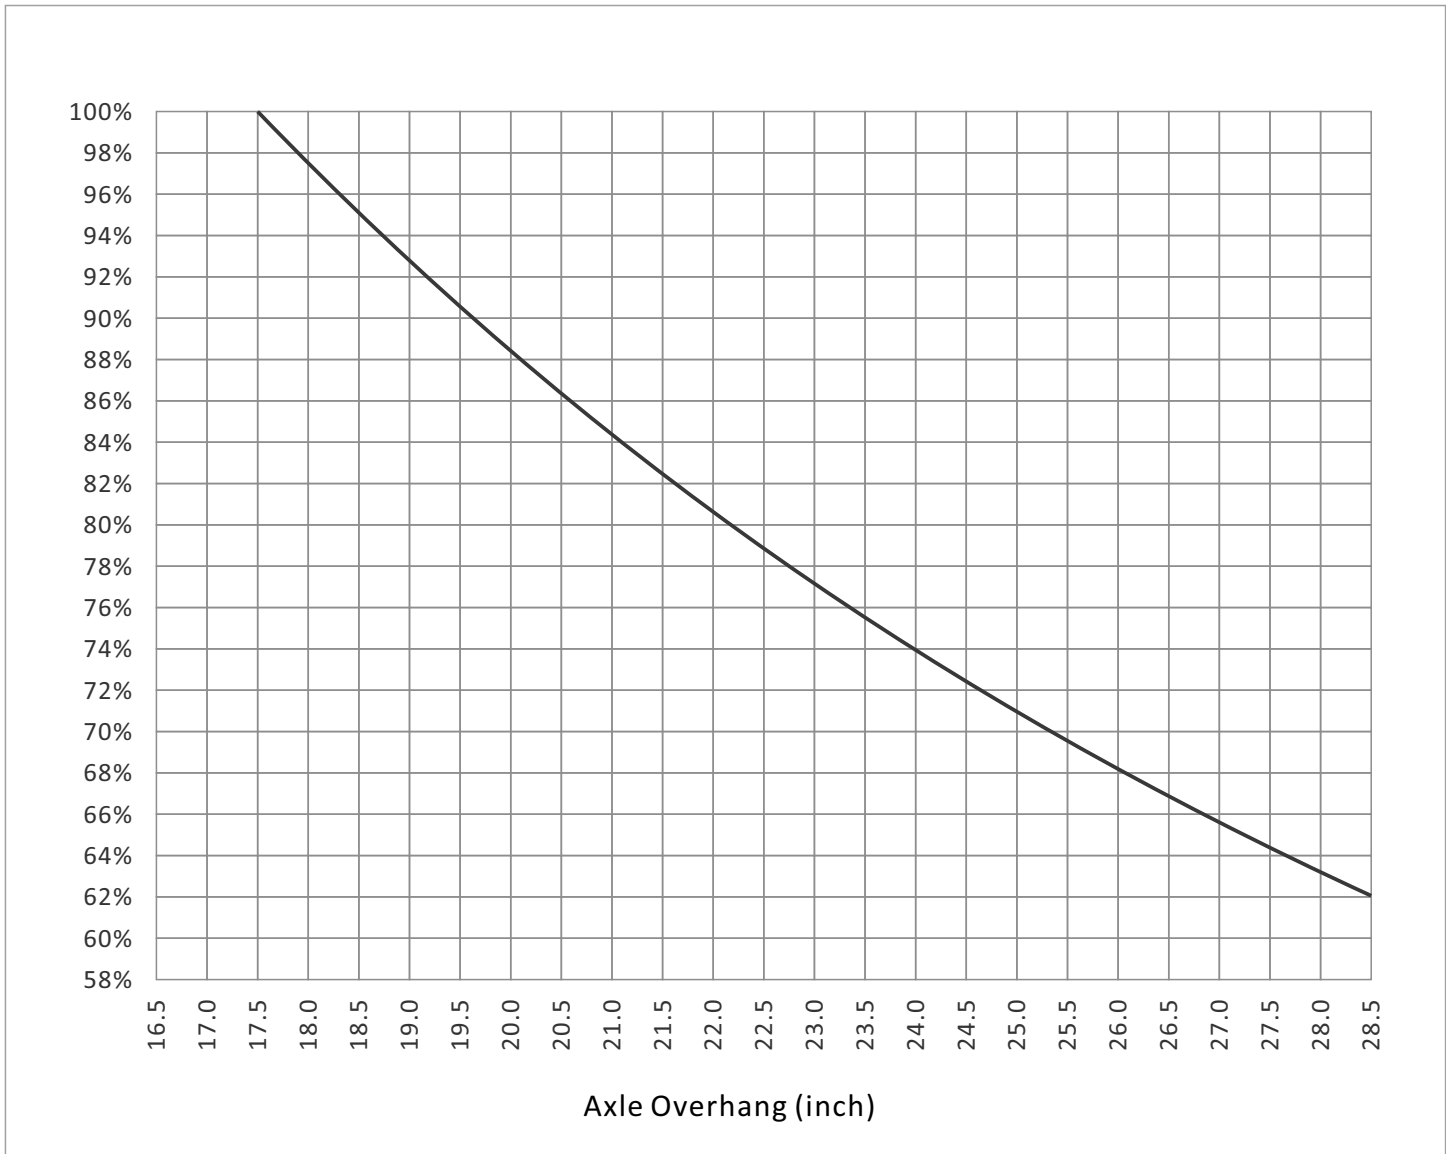

FIGURE 6. Percentage of Nominal Beam Rating
In (FIGURE 6) chart on page 12, it is possible to determine the Axle Beam Rating by assuming the central dimension of the suspension mounting. This chart provides the Axle Beam Rating according to the Wall Thickness of the TN / TP Spindle Type Axle with Suspension.
5. Refer to the “HDNABI™ TRAILER AXEL BEAM RATINGS” FIGURE to determine the Percentage of Nominal Rating. (See FIGURE 6 on Page 12)